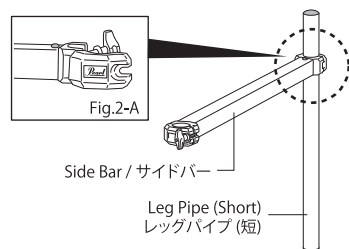

Fig.2
2. For the two side Rack Extensions, use one Square Bar and one Leg (short). Open the clamp section of one side of the Square Bar (Fig.2-A) and connect it onto the Leg as shown (Fig.2). Repeat this process using the other Square Bar and Leg (short) as shown (Fig.2).
サイドバーのクランプ部を開き、レッグパイプ (短) を任意の場所に取付けて固定します (Fig.2-A)。同じものをもう1セット用意してください (Fig.2)。